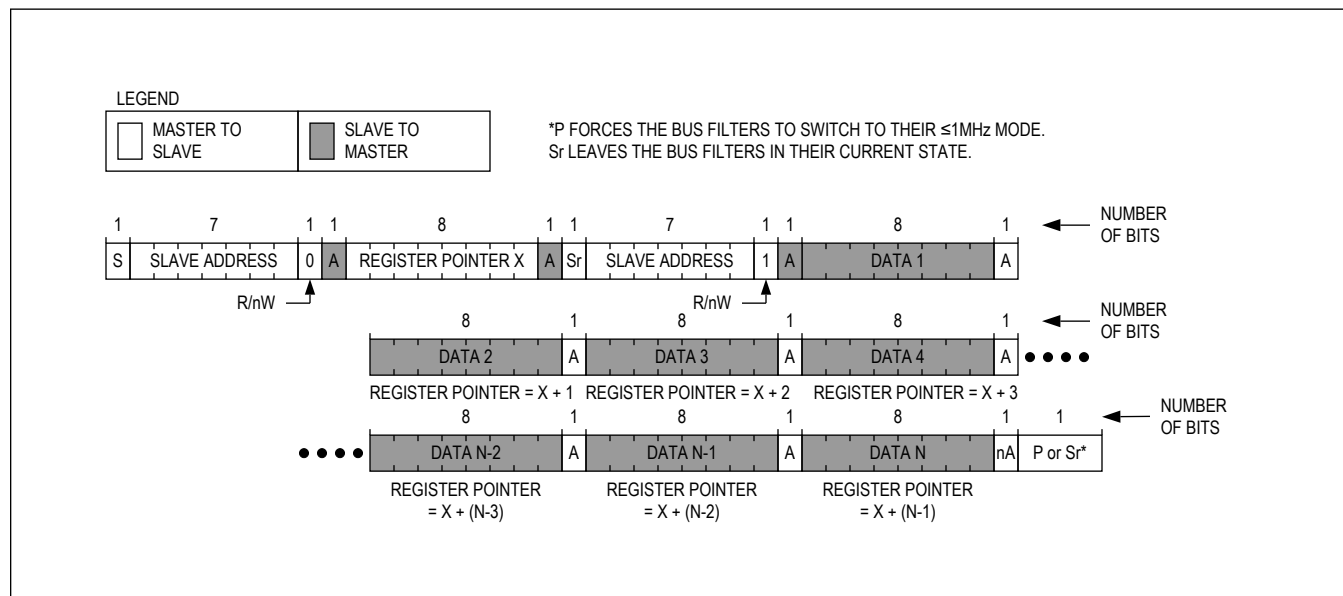

Figure 13. Reading from Sequential Registers
Figure 13 shows the protocol for reading from sequential registers. This protocol is similar to the “Read Byte” protocol except the master issues an ACKNOWLEDGE (A) to signal the slave that it wants more data—when the master has all the data it requires, it issues a not-acknowledge (nA) and a STOP (P) to end the transmission.